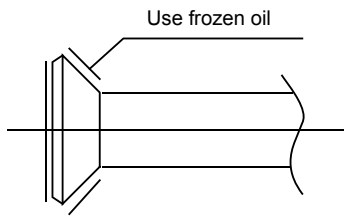

Fig.6-1
- ① Bend the tubing in proper way. Dont harm them.
- ② Daub the surfaces of the flare pipe and the joint nuts with frozen oil, and wrench it for 3~4rounds with hands before fasten the flare nuts. (Refer to Fig. 6-1)
- ③ Be sure to use two wrenches simultaneously when you connect or disconnect the pipes.